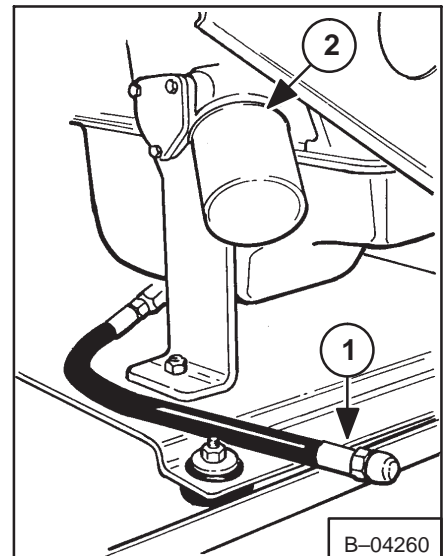

**Fig. 1-12A** Governor Oil Level Check
1. Remove the check plug (Fig. 1-12A, Item 1).
3. If no oil flows, remove the fill plug (Fig. 1-12A, Item 2) and add SAE 10W-30 or 10W-40 oil until it flows from the check plug hole.